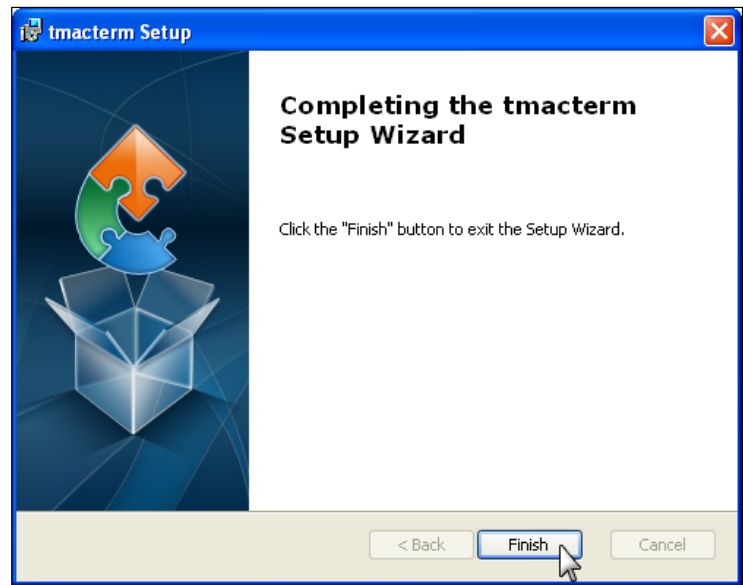

Fig. 36
8. Click *Finish* to exit the DTMAC term Setup Wizard (Fig. 36).